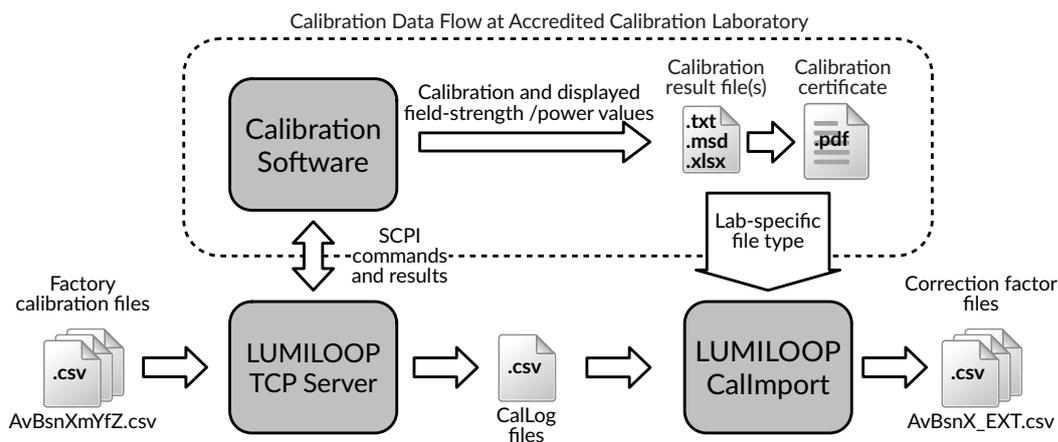

Figure 125: Enhanced calibration data flow
As shown in Figure 125, LUMILOOP has enhanced the calibration data flow by supplying the calibration data import tool *CallImport* as part of the LUMILOOP Installer. CallImport automatically generates checksum-protected CSV files for the LUMILOOP TCP Server. These correction factor (CF) files contain the correction factors for each frequency and antenna (LSPROBE) or measurement channel (LSPM) in decibel (dB). Multiple correction factor files can be generated to accommodate different calibration field-strengths (LSPROBE) or reference power levels (LSPM) and additional modes.